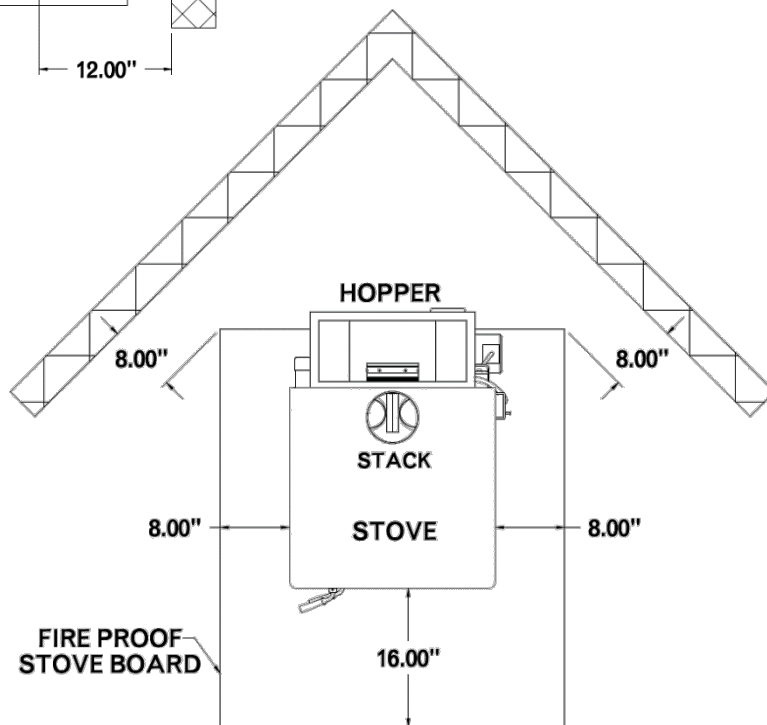

FIGURE 1
1. Select a position on a solid level surface with direct access to a chimney. On non-masonry floors, use an approved fire resistant & ember resistant floor protector under stove. Maintain 12" clearance on sides of stove to combustibles. A 2" clearance on rear and 16" clearance on front of stove. Clearance from corners of stove is 8". See label on stove. Refer to Figure 1.